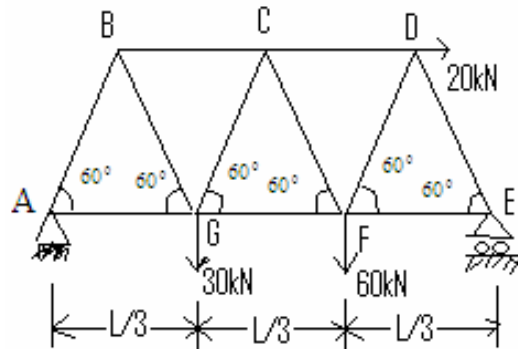

Figure.4
5. Calculate the forces induced in the members of the pin-jointed truss shown in the Figure.4. [15]